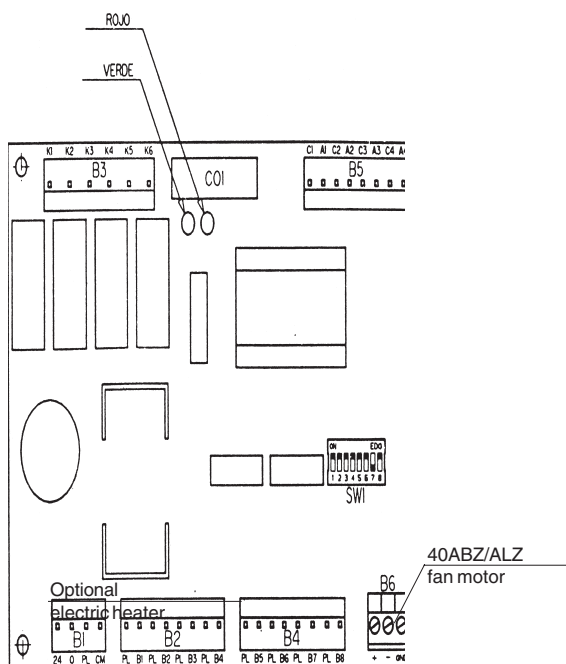

Fig. 42
- The power of the optional electric heater of the indoor unit is supplied via the main disconnect switch of the 38XTZ unit (see Fig. 42).